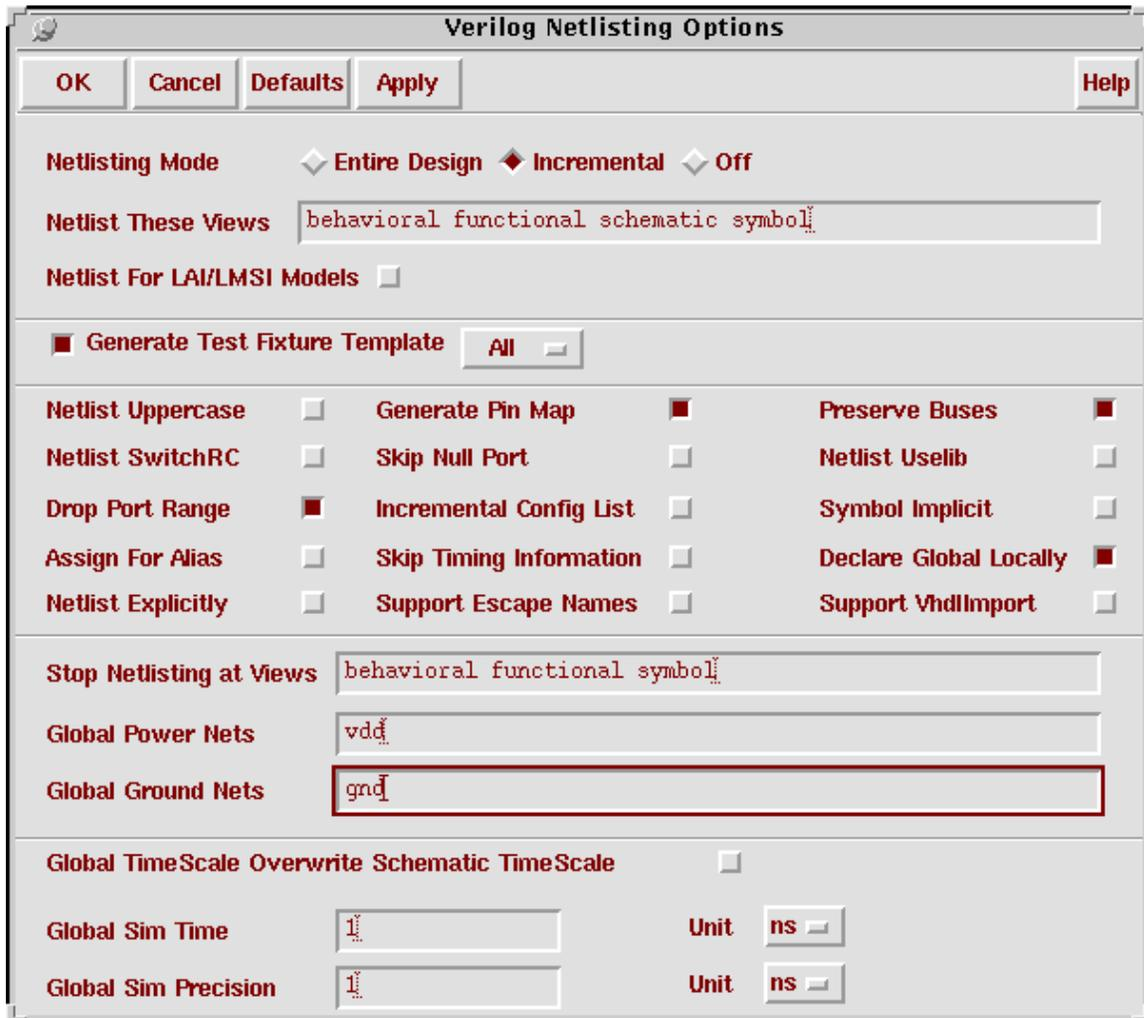

Fig 5: Additional Verilog Netlisting Options
Additional netlisting options are added to the form as shown in Fig 5.
- d. In Fig 5 set **Global Power Nets** to *vdd* and set **Global Ground Nets** to *gnd*. (The names for the **Global Power Nets** and **Global Ground Nets** should be set as per the names of the power and ground pins in your schematic).